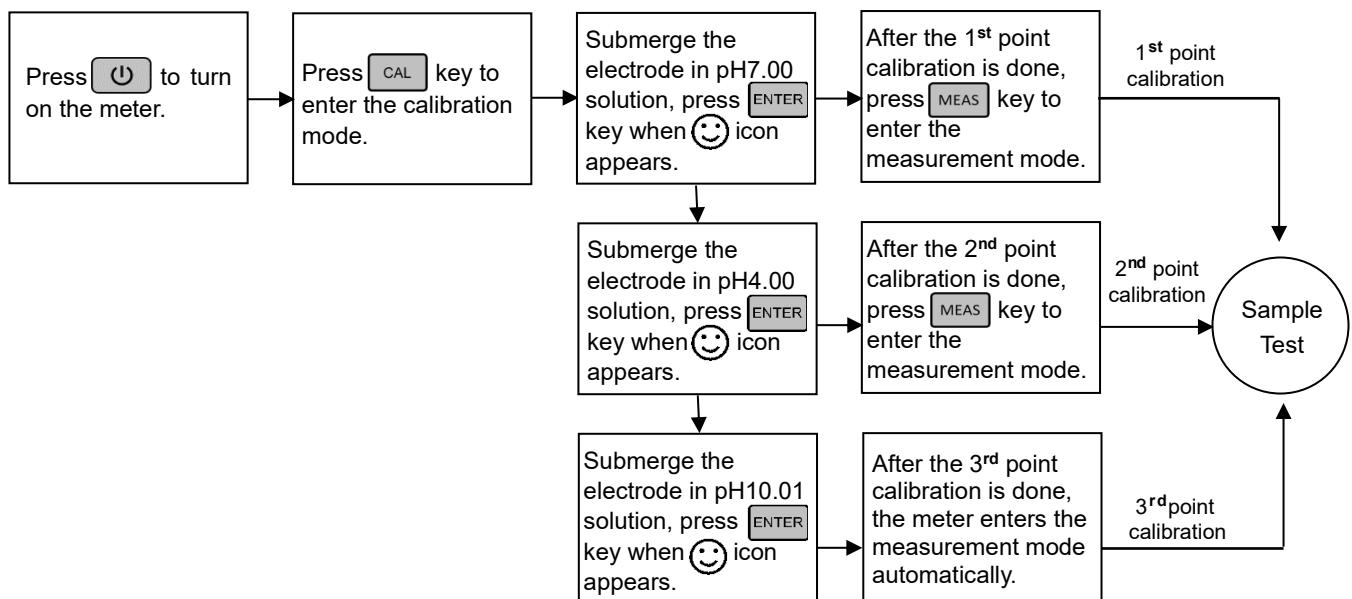

Figure-10
5.6.1 Rinse the pH electrode in distilled water or purified water, dry it, and dip it into sample solution. Stir the solution gently and let it stand still in the sample solution until 😊 icon appears and stays on LCD, get the pH reading, which is pH value of sample solution, please refer to Figure-10 for calibration and measurement process of the pH meter.